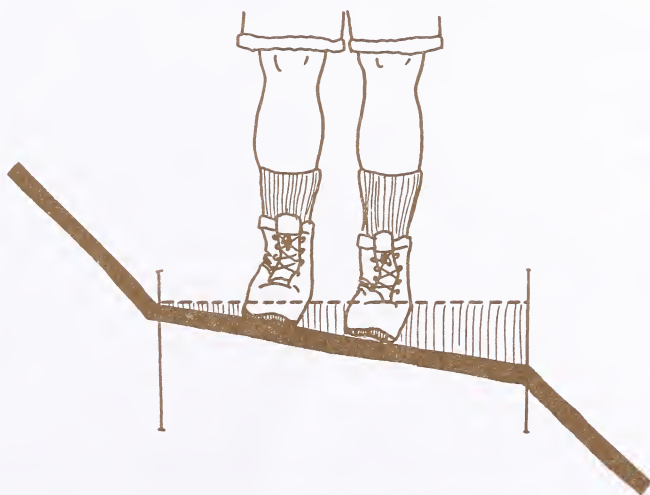

Figure 12—If your ankles start to roll, there is too much outslope.
- The best way to check the outslope is to walk the tread. If you can feel your ankles rolling downhill, there is too much outslope (Figure 12). The outslope should be barely detectable to the eye. If you can see a lot of outslope, it's probably too much.